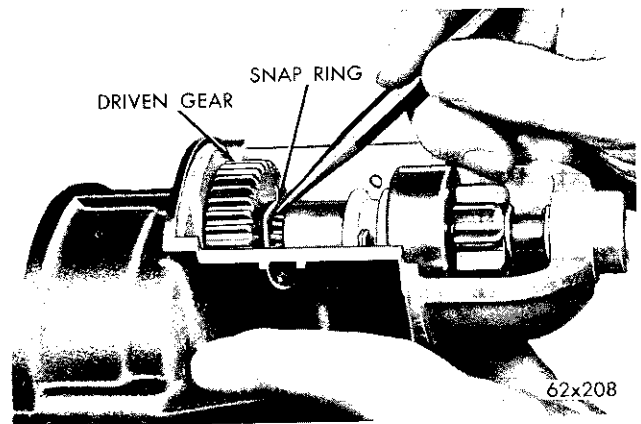

Fig. 8—Removing the Driven Gear Snap Ring
(17) Release the retainer that positions the driven gear on the pinion shaft (Fig. 8).